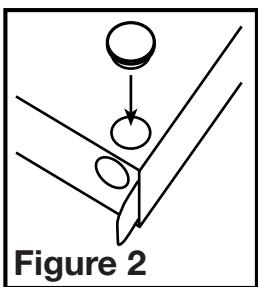

Figure 2
4. Select the most convenient electrical knockout hole and insert the knockout plug into the 2nd knockout hole (**Figure 2**).